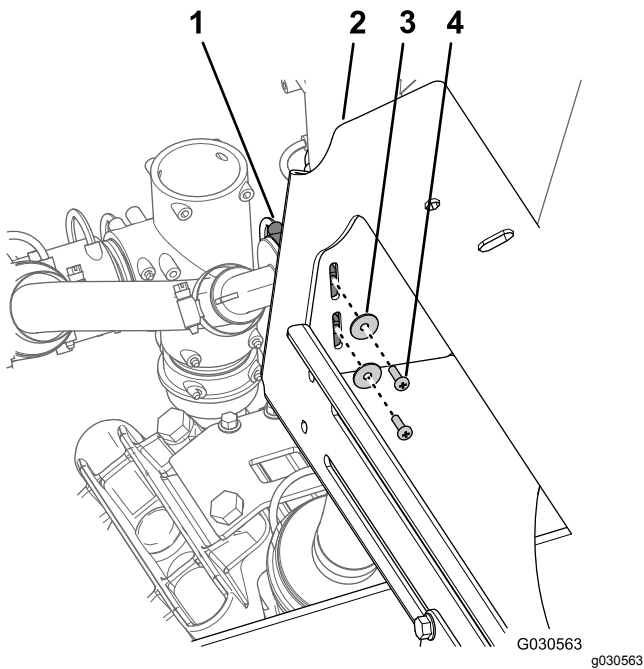

Figure 97
1. Remove the 2 pan-head screws (#10 x 5/8 inch) and 2 washer (#10) that secure the T-fitting to the left side of the manifold mount (Figure 97).